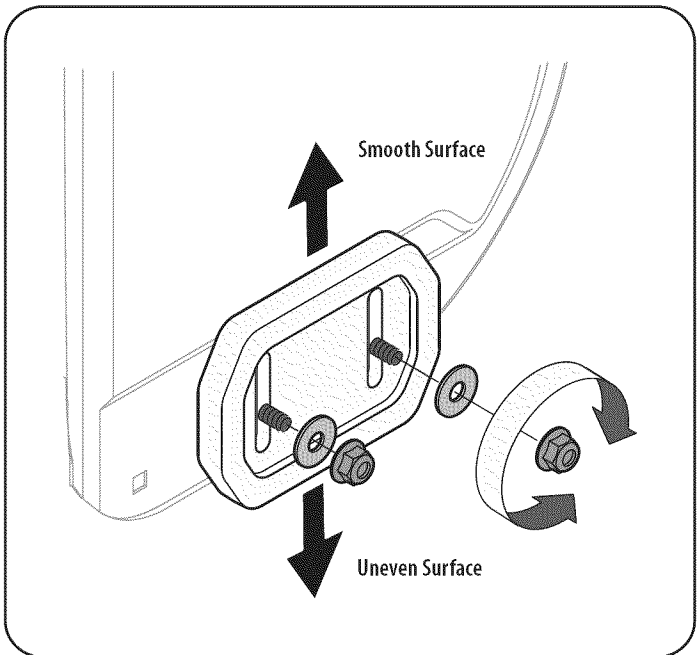

Figure 13
- For close snow removal on a smooth surface, raise skid shoes higher on the auger housing. Refer to Figure 13.
1. Loosen the four hex nuts (two on each side) and carriage bolts. Move skid shoes to desired position. See Figure 13.